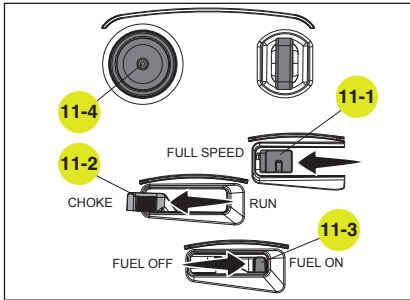

Figure 11
2. To start a cold engine: (Fig. 11).